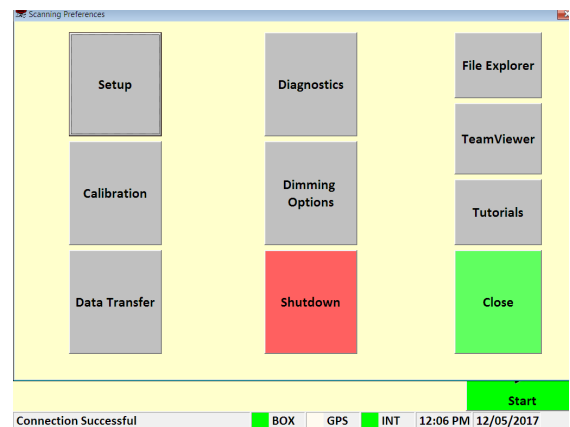

Figure 4.1. Options Window.
- 2) Press the **Calibration** Menu button to open the Calibration menu window as shown in figure 4.1.